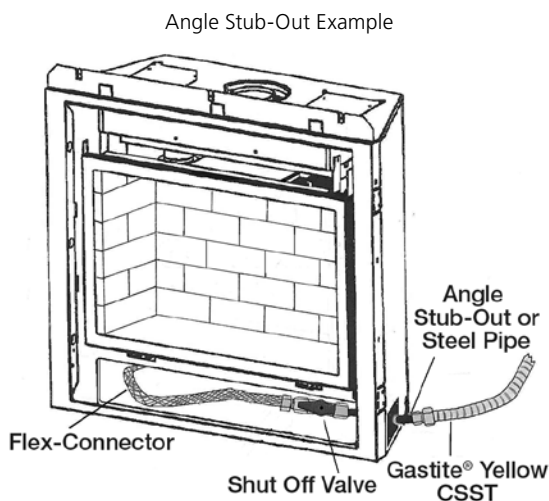
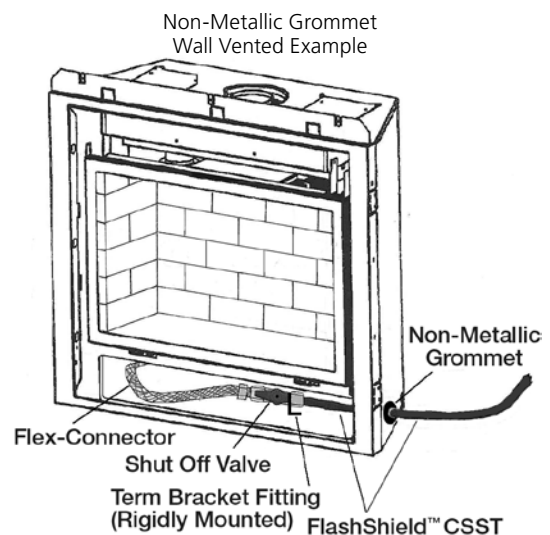

Fig. 4-72
Fig. 4-73
- f) Gastite® CSST shall not penetrate the metallic enclosure of a fireplace (Fig. 4-72). The Fireplace Stubout (ANGLE-STUB-01-10) may be used to terminate the CSST outside the enclosure. While other listed installation practices are acceptable this method is preferred to prevent damage, that can be caused by the fireplace enclosure, to the CSST.
- g) FlashShield™ CSST shall not be directly routed into a metallic gas appliance enclosure utilizing a metallic vent that penetrates a roofline. The CSST connection shall be made outside of the metallic gas appliance enclosure to a section of rigid metallic pipe, stub-out, or termination fittings. Where it is necessary to install FlashShield™ CSST through the sheet metal enclosure of a fireplace that does not utilize a metallic vent which penetrates a roofline, the tubing shall be routed and supported to permanently prevent physical contact with any portion of the metallic enclosure. To avoid contact with the enclosure at the point of penetration a non-metallic grommet or non-metallic tube shall be used (Fig. 4-73). Otherwise, an angle stub or steel pipe components must be used with the CSST terminated outside the enclosure (Fig. 4-72).